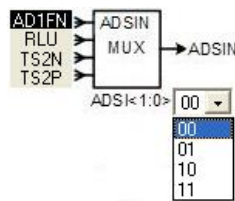

Figure 41
- (1) Click the network name with mouse left key, then AD1IN can go to the specified network
- (2) Click mouse left key and Figure 41 will be displayed, then on-off network can be selected.